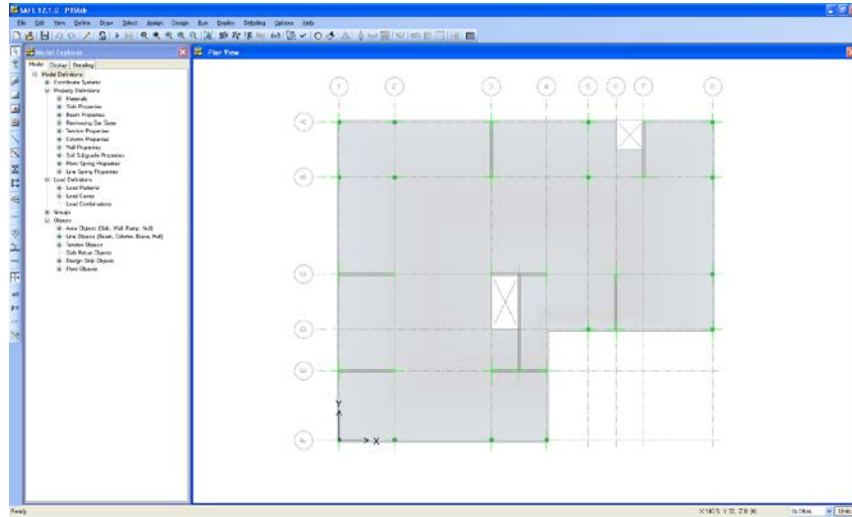

Figure 84 Model after all objects have been drawn
- B. Click the **OK** button to accept the changes, and the model now appears as shown in Figure 84.